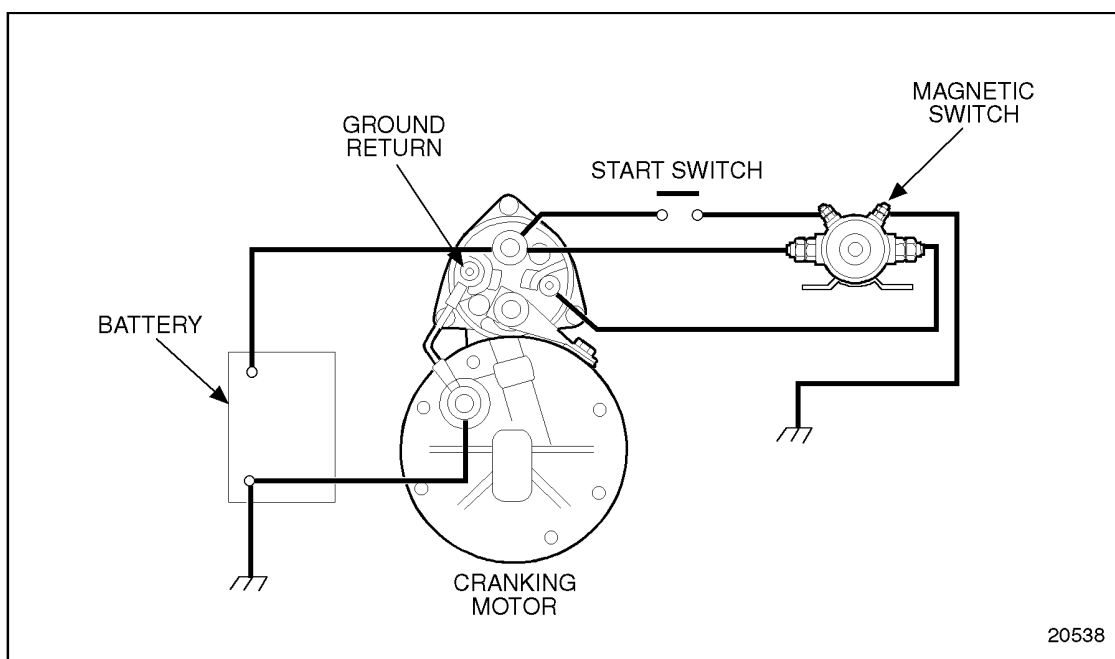

Figure 17-2 Basic Cranking Circuit
2. Clamp a heavy gauge battery jumper cable between the two large studs of the magnetic switch. see Figure 17-2.
2. Place the black voltmeter lead to the starter ground terminal, see Figure 17-2.